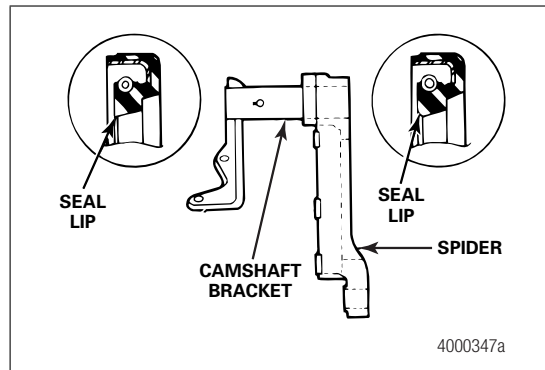

Figure 4.6
- **If the brake has a stamped spider:** Install both bushings into the bracket. Install the seals with the seal lips toward the slack adjuster to ensure grease purges at the slack end. Figure 4.6.